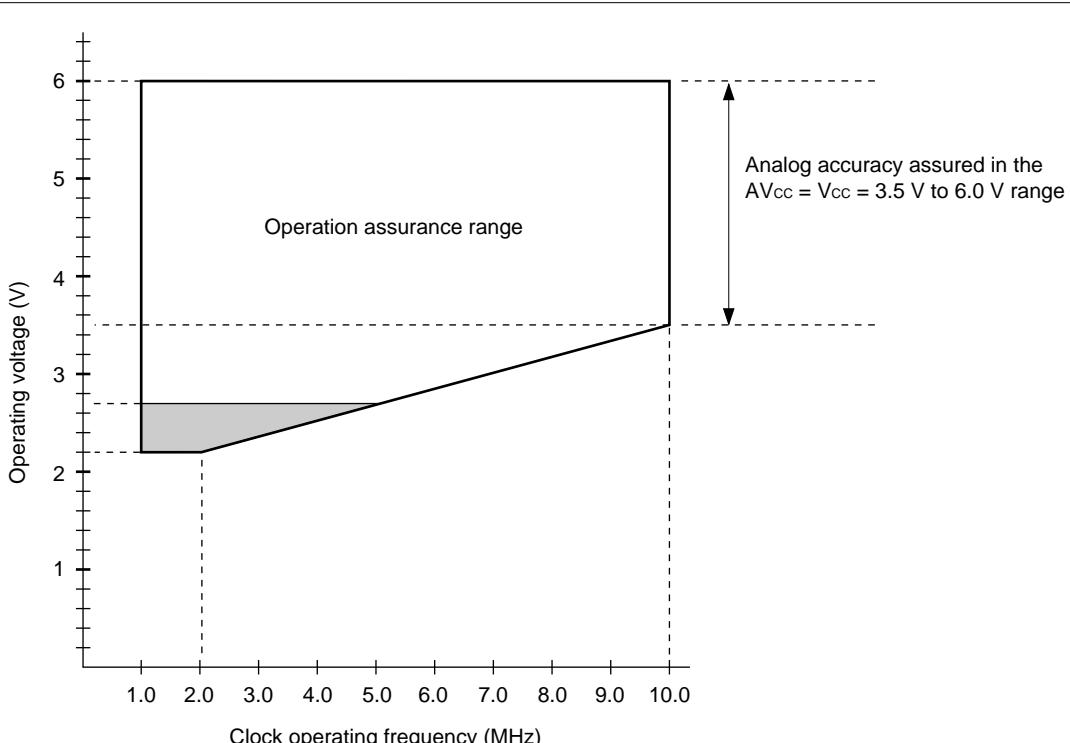

Figure 1 Operating Voltage vs. Clock Operating Frequency
*: These values vary with the operating frequency and analog assurance range. See Figure 1 and "5. A/D Converter Electrical Characteristics."
Figure 1 indicates the operating frequency of the external oscillator at an instruction cycle of $4/F_C$.